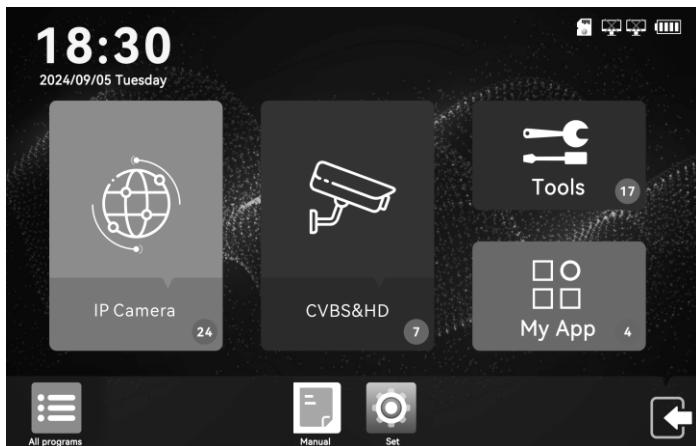
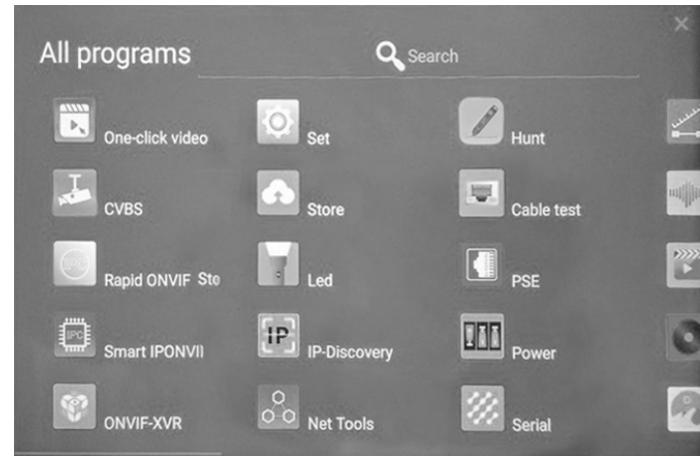

Figure 5 System Desktop
Figure 6
This instrument uses smart operation system, ensure that the lithium battery is installed correctly and has enough power, press the power button for 2 seconds to boot, waiting for system boot completion, then you enter the system desktop main menu, as shown in Figure 5
- 1) The upper right status bar icons represent the SD card status, network connection status, battery level, the upper left icons represent the current time and date, as shown in Figure 5
- 2) Directly touch the icon  in the lower left corner of figure 5 to list all software in the system, slide left or right to view more App icons, as shown in Figure 6